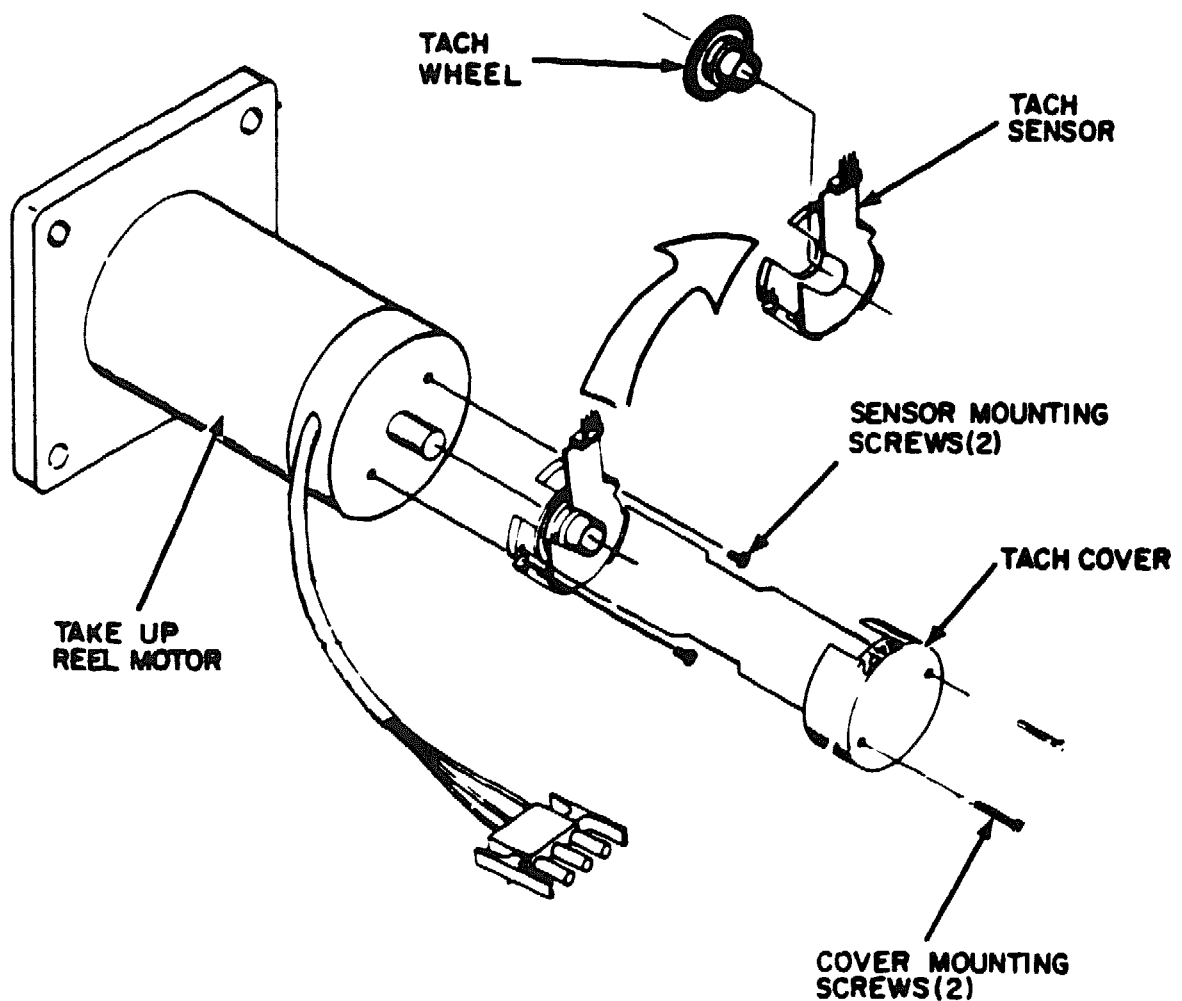

Figure 5-9. TAKE-UP MOTOR ASSEMBLY
5. Remove the four mounting screws securing the motor to the tape deck. See Figure 5-9. Remove the motor from the transport.
9. Disassemble the spared take-up reel motor assembly as follows: (see Figure 5-9)